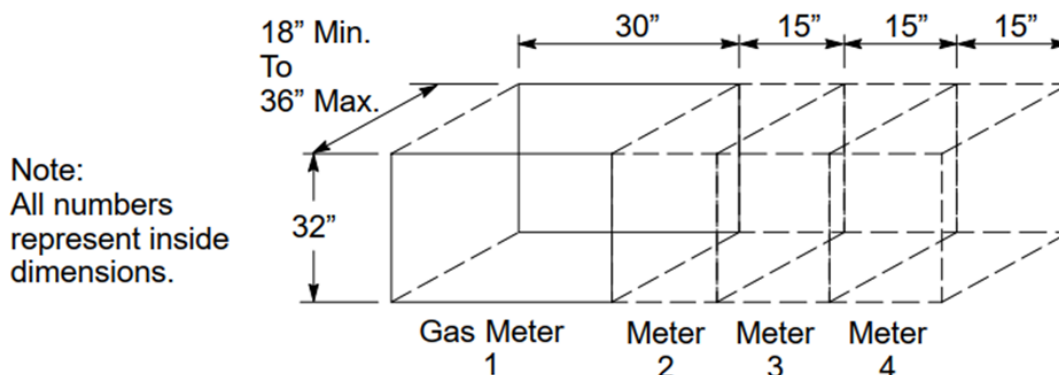

Figure 16. Cabinet Dimensions for Multiple, Residential Gas Meters
1.20. Required dimensions for a manifold in multiple cabinets are shown in Figure 16.